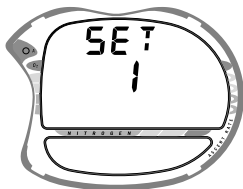

Fig. 16 - Set Mode 1
- after 2 seconds, SET: 1 appears (Fig. 16)